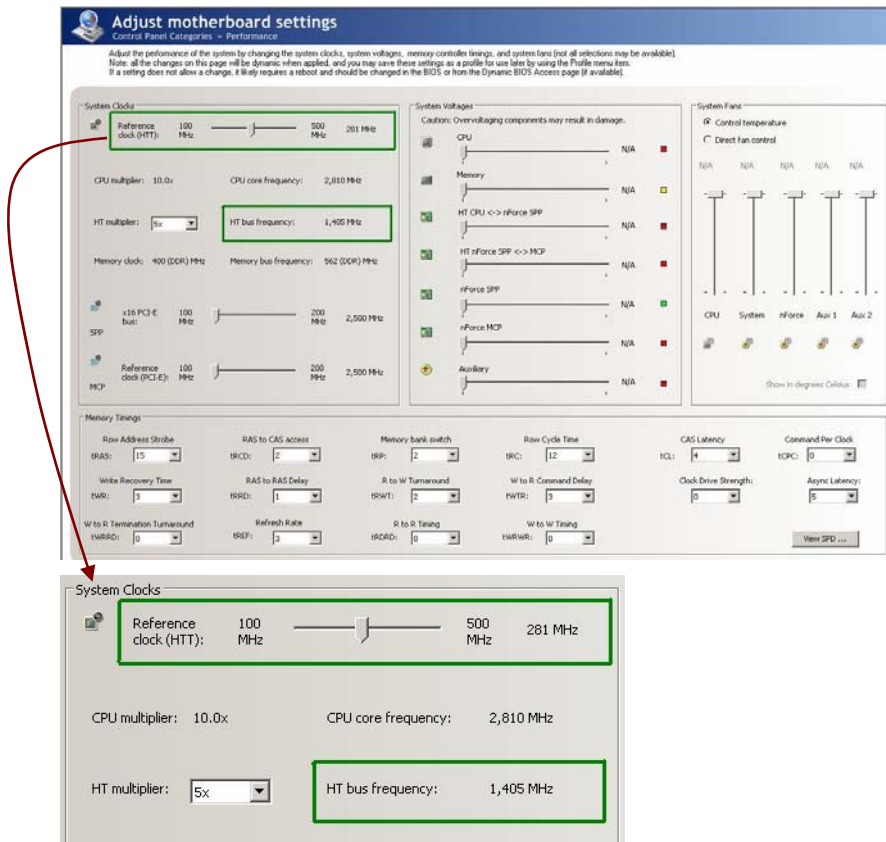

Figure 9. Adjusting HT Bus Frequency Using NVIDIA nTune 5.0
- Go to NVIDIA nTune to incrementally adjust and test the CPU HTT bus in Windows. Increasing the **Reference clock (HTT)** to 281 MHz provides a stable setting that effectively increases the CPU HyperTransport speed by 40% to 1.4 GHz, up from 1 GHz. (Check in using the NVIDIA nTune **Motherboard Settings** control panel shown in Figure 9).